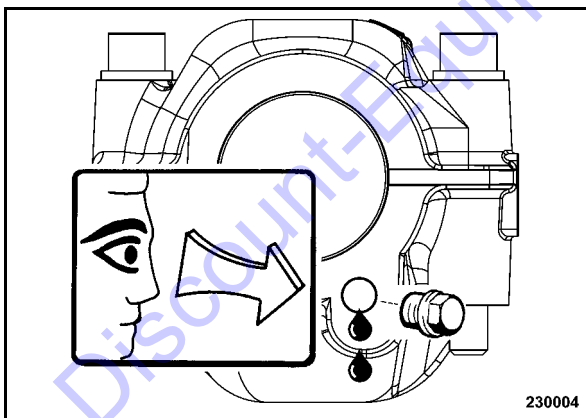

Fig. 54
- Unscrew plug (Fig. 54) and fill in engine oil.